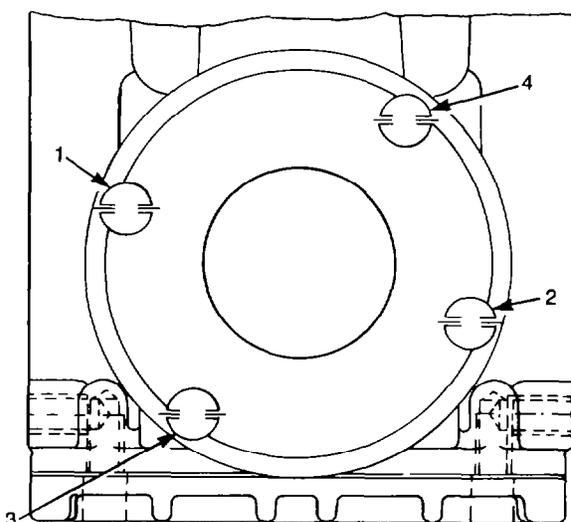

Figure 341 — Rear Bearing Housing — Tightening Sequence
- d. Install a new O-ring on the crankshaft rear bearing housing, then align the screw mounting holes and using a soft-faced hammer, tap the housing onto the bearing. Install and torque the mounting screws to 12-23 Nm (9-17 lb.ft) in the sequence shown in Fig. 341.